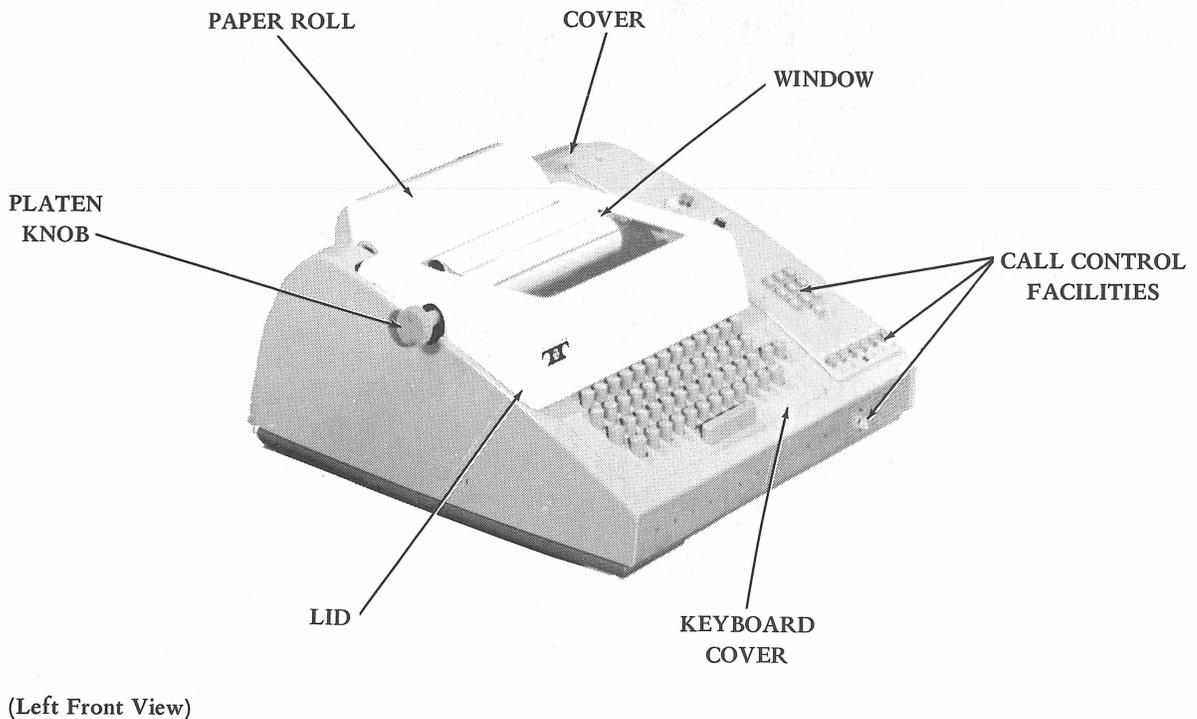

Figure 2 - Keyboard Send-Receive (KSR) Teletypewriter Set (Without Stand)
2.03 The KSR set (Figure 2) receives and prints messages on a paper copy. It can generate messages from its keyboard and answer-back mechanism. The KSR consists of:
3.16 A plastic cover (Figure 2) provides a decorative and protective enclosure for the set components. A lid, which is spring detented in its open position, may be raised